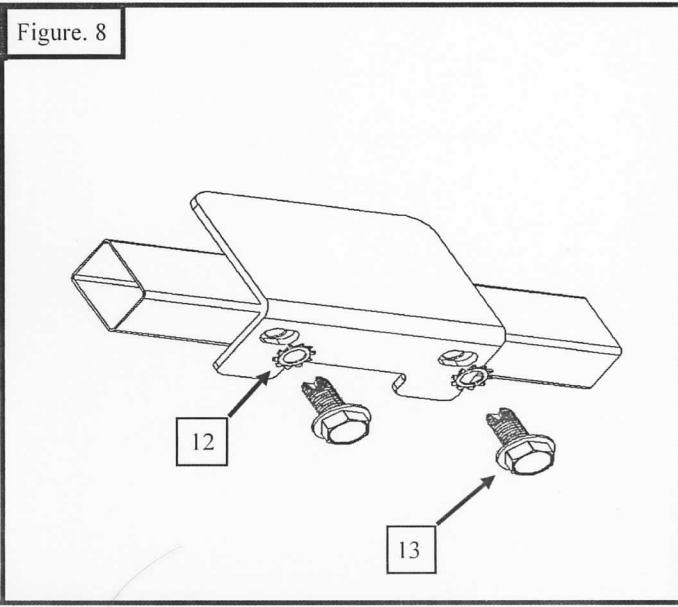

Figure. 8
**Boot scraper (OPTIONAL)** can be installed anywhere on the underside front edge of the running board. Place the boot scraper (item 5) on the underside of the running board rail. Then mark the position that it will be installed using a transfer punch. Remove the boot scraper; then using a 5/16" drill bit align it with the previously made marks and drill through the bottom of the rail on the running board. Thread in (2x) 9.5mm hex head self tapping screws. Remove the screws and add some silicone sealant in the holes to prevent rust. Attach the boot scraper (item 5) using (2x) 9.5mm Hex Flange Head Self Threading Screw (item 13) and (2x) 9.5mm external toothed lock washers (item 12). (Figure 8 ) Torque all M9.5 hardware to 18 ft. lbs.